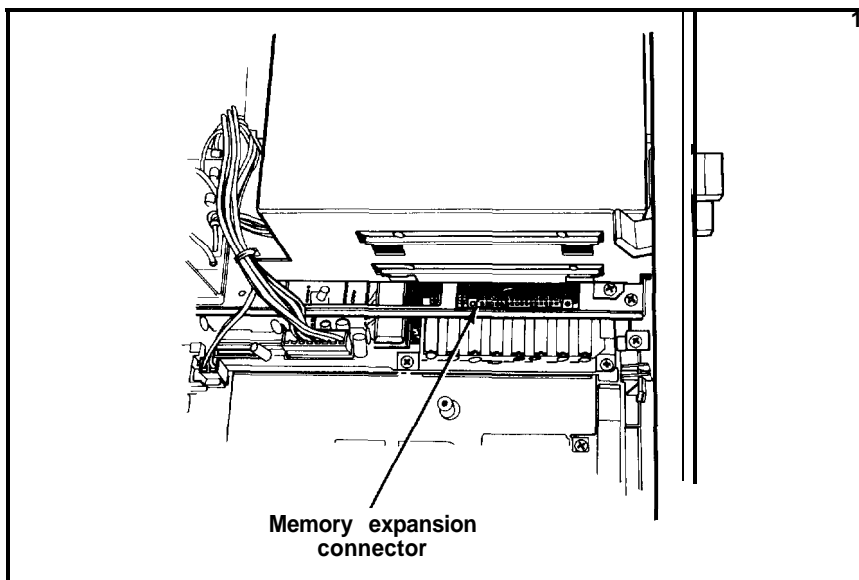

Figure 5-6. Memory *expansion connector*
2. The memory expansion connector is located at the front of the main unit, to the left of the disk drives, as shown in Figure 5-6.